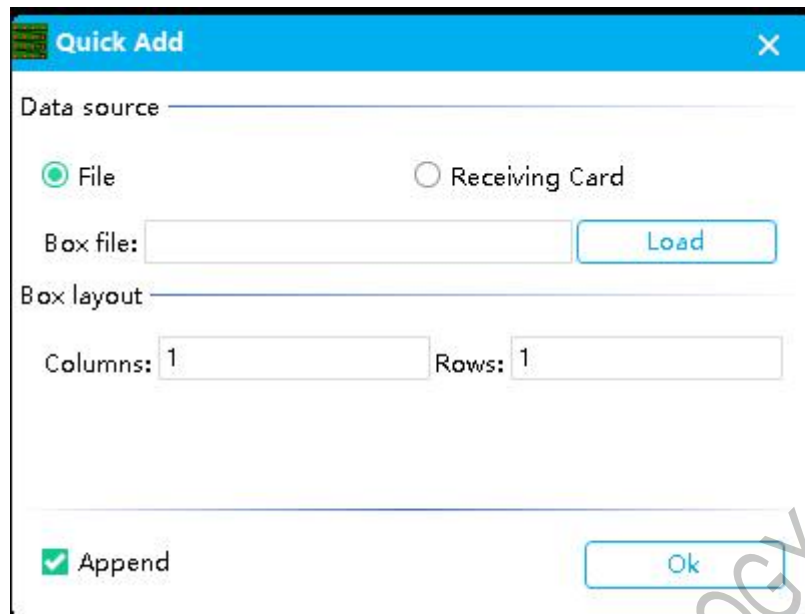

Figure 4-3-4 Rapid addition of the box configuration
When there is only one box configuration for the display to be debugged, click to select the ② loading method to enter the interface of Quick Add Box, click Browse on this interface to load the box configuration file, and enter the horizontal and vertical quantities in the box layout column to add the array of large-screen modules. In the target port column, you can classify the port of the added module and select the port according to the actual situation. Click the Confirm button to complete the addition of the box configuration, as shown in Figure 4-3-4.